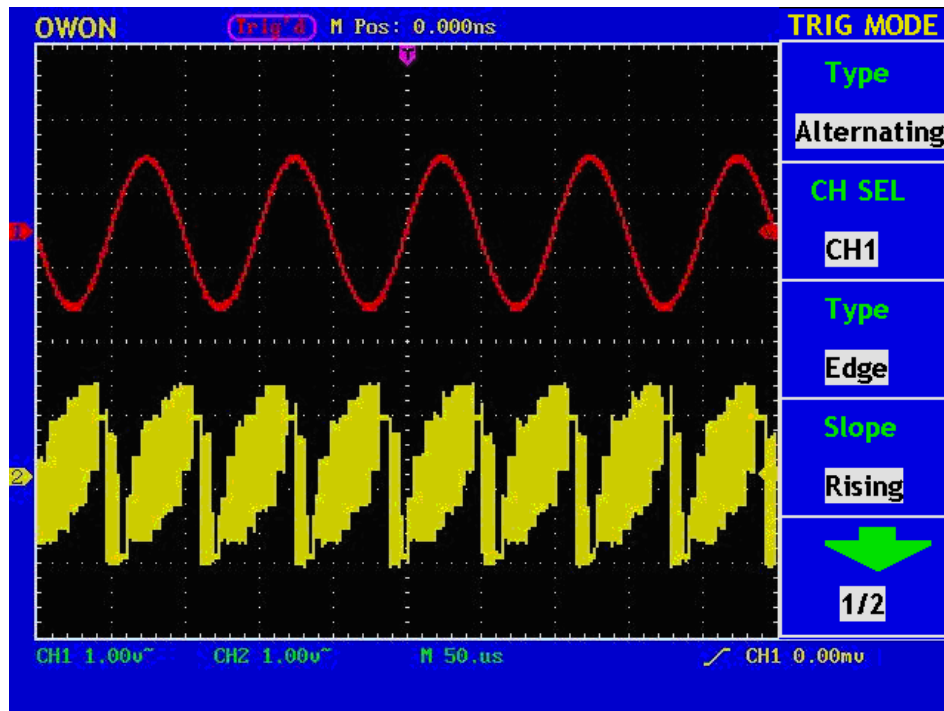

Fig. 43 Alternate trigger Oscilloscope
- Acquired waveform refer to Fig.43